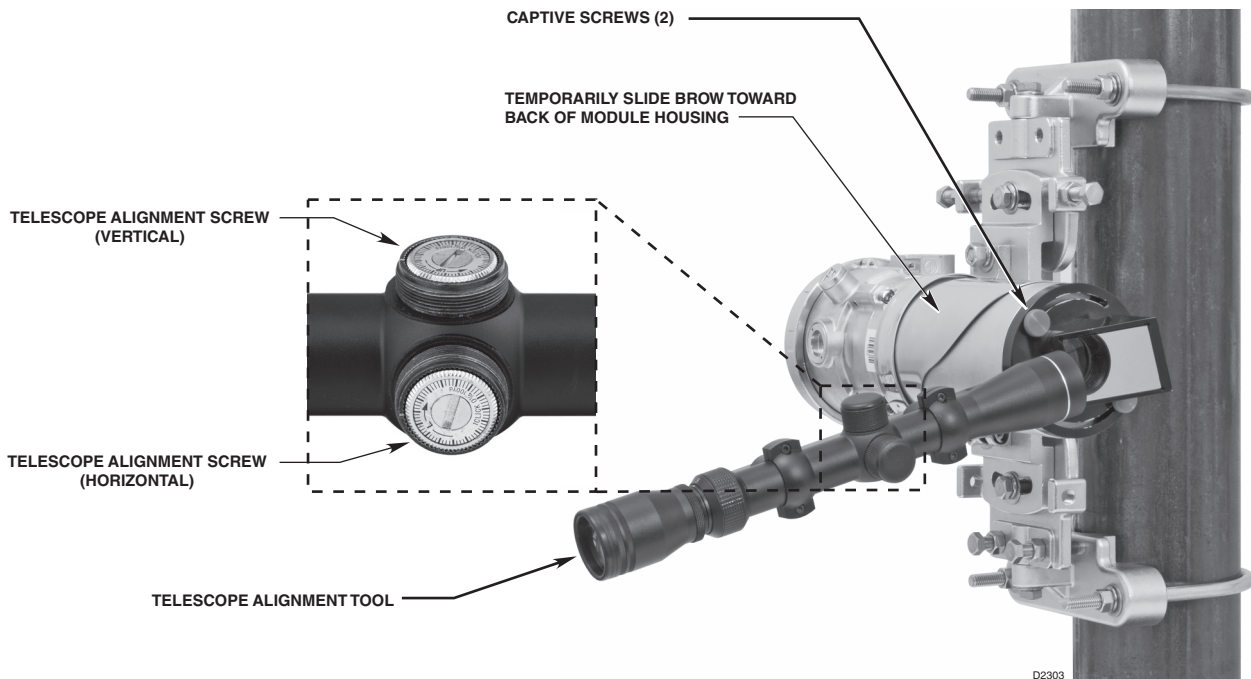

Figure 18— HC600 with Telescope Alignment Tool Installed (Transmitter Module Shown)
6. Install the Telescope Alignment Tool onto the receiver module by inserting the captive thumbscrews into the threaded holes on the faceplate. See Figure 18. Ensure that the telescope is properly attached, that the eyepiece is accessible, and that the thumbscrews are completely tightened.